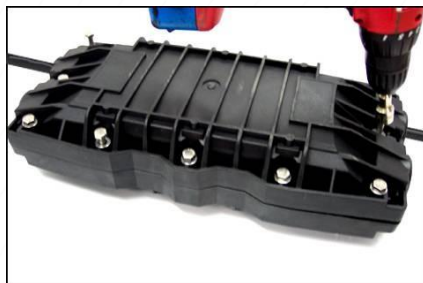

Figure-41
- Tighten the closure body with the provided screws listed below. (Figure-41)